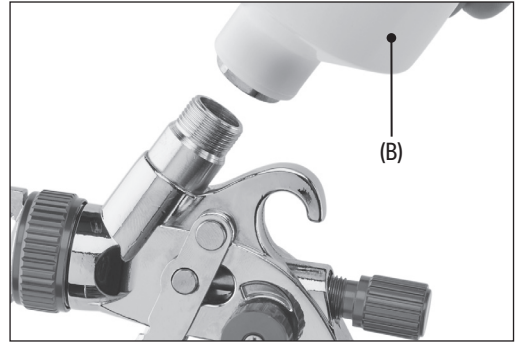

Fig. 6
1. Attach a paint cup (B) to the threaded socket at the top of the spray gun body (Fig. 6).